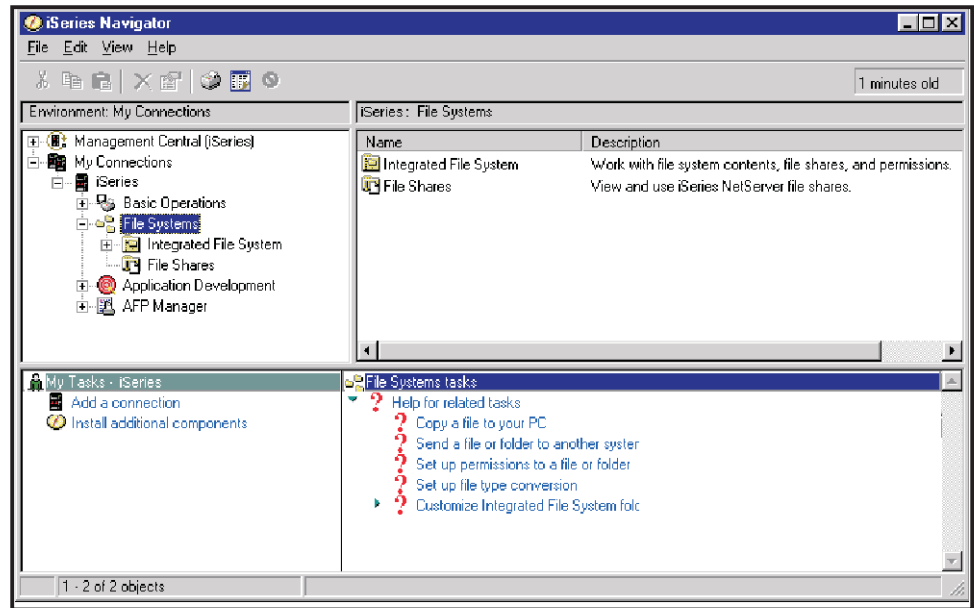

Figure 203. iSeries Navigator File Systems
- Expand **File Systems** to display a list of all OS/400 file systems to which you are authorized, as shown in Figure 203.